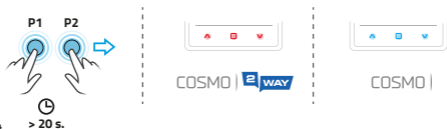

Fig. 14 > 20 s.
2. Press and hold the **P1 + P2** function buttons on the back of the controller for 20 seconds at the same time. - Fig. 14.